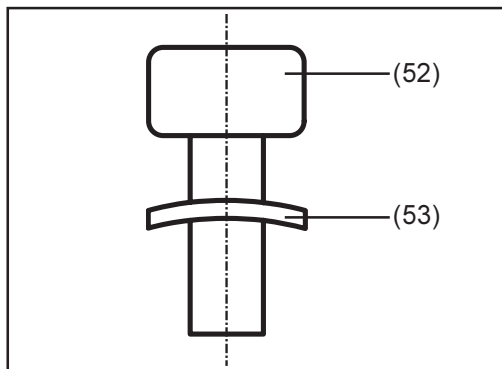

Fig. 13
- Place the LCG15 board (3) onto the spacers on the diode holder, in the correct position
- Slightly tighten the two M4x20-TX20 screws (65), (without cup springs)
Note! Before inserting the two M4x20-TX20 screws (52) into their holes, push the cup springs (53) - Fig. 13 - onto the M4x20-TX20 screws (52).
1. Place the LCG15 board (3) onto the spacers on the diode holder, in the correct position
N.B.! Before inserting the 4 hexagon-socket screws M4x22 - width-across 3 - (52) into their holes, push the cup springs (53) - Fig. 13 - onto the screws (52).